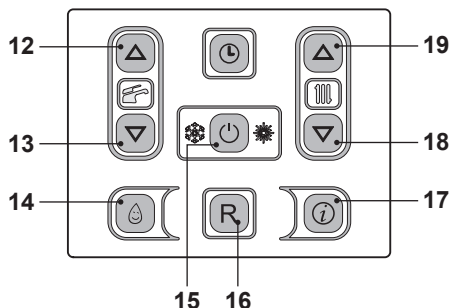
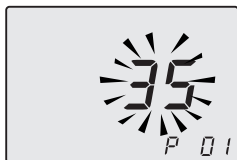

Fig. 8.35
Fig. 8.36
- Enter the "programming mode" by sequentially pressing and holding in keys, 15 - 18 and then 19 (Fig. 8.35) for 10 seconds until the letters **P01** are displayed on the LCD display and the value of the parameter (60=**Inovia 25C ERP**, 63=**Inovia 30C ERP** or 64=**Inovia 35C ERP**), indicating that "parameter 01" (Fig. 8.36) has been activated.
- Press keys 12 or 13 to change the value and confirm the value of the parameter with key 15.
- Press keys 18 or 19 (Fig. 8.35) to exit without changing the value.